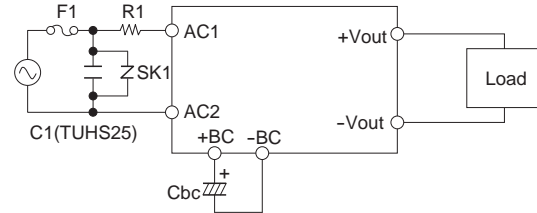

Fig.2.1(a) Connection for standard use (AC input or DC input)
■To use TUHS series, connection shown in Fig.2.1 (a) or (b) and external components are required.